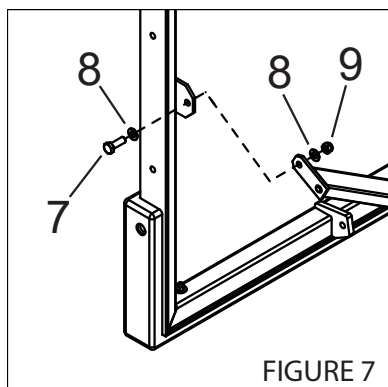

FIGURE 7
- B. Follow Figure 7 and attach backboard frame to upper adjustable brace arms using two 3/8" x 1" Hex Bolts (7), four 3/8" flat washers (8) and two 3/8" lock nuts (9).